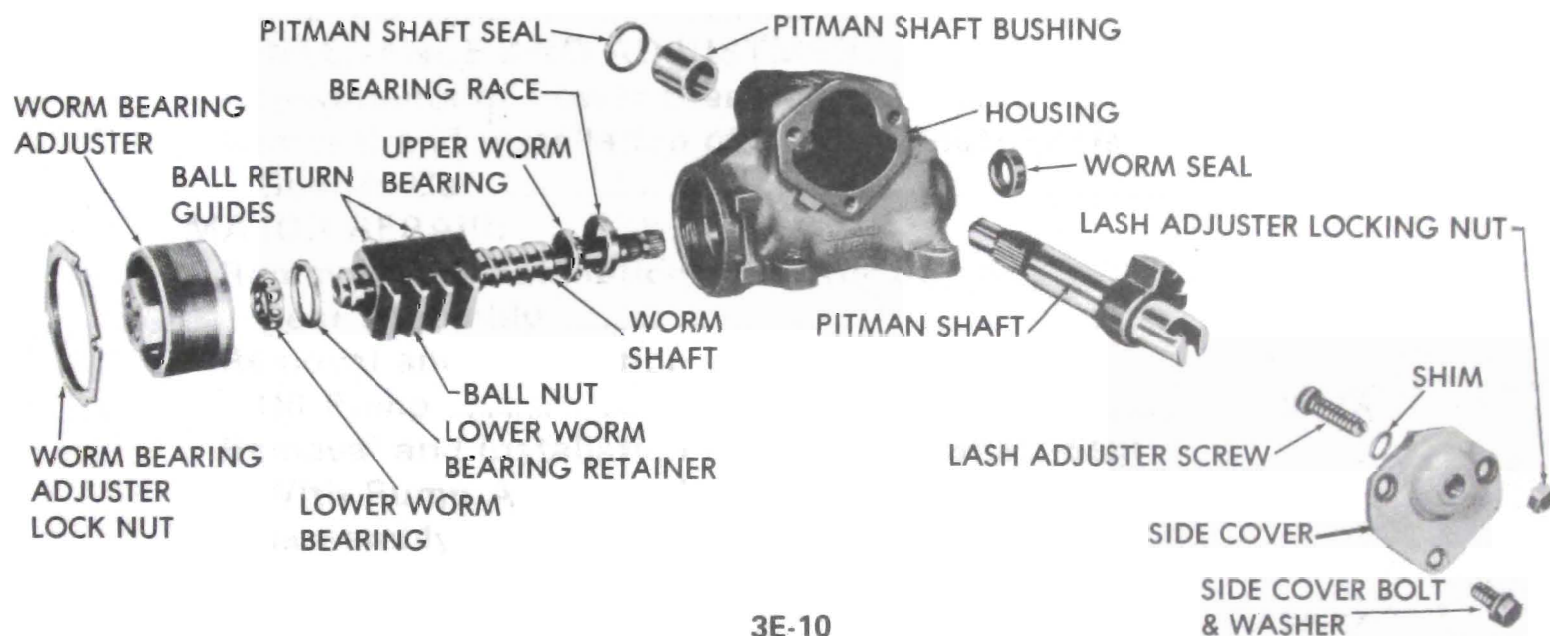

Figure 3E-10 Manual Steering Gear - Exploded View
8. To protect pitman shaft seal from damage, cover shaft splines with masking tape. Slide new seal into place and seat seal flush with surface of housing using Installer J-9540. See Figure 3E-6.
9. Install new worm shaft seal using Installer J-8564. Drive seal flush with surface of housing. See Figure 3E-5.